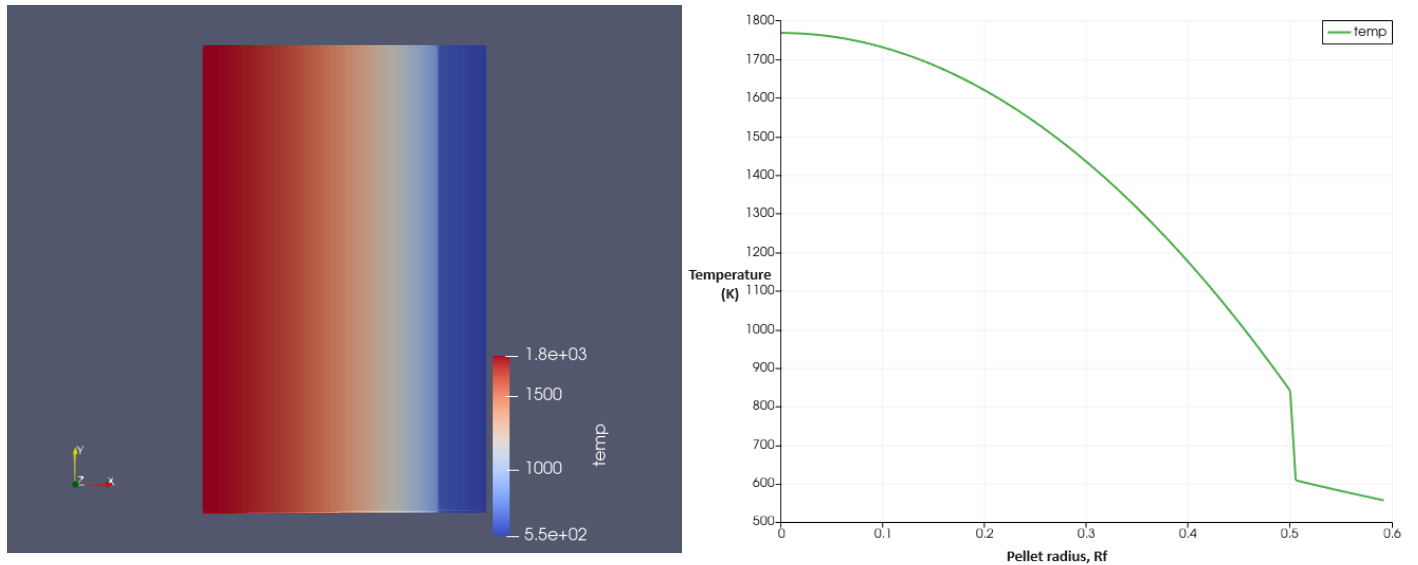

Figure 1. Colored contour plotting of the geometry (left) and temperature vs pellet radius plotting (right)
- A linear temperature profile is found at cladding and gap region, whereas parabolic profile can be seen in fuel region (Figure 1).